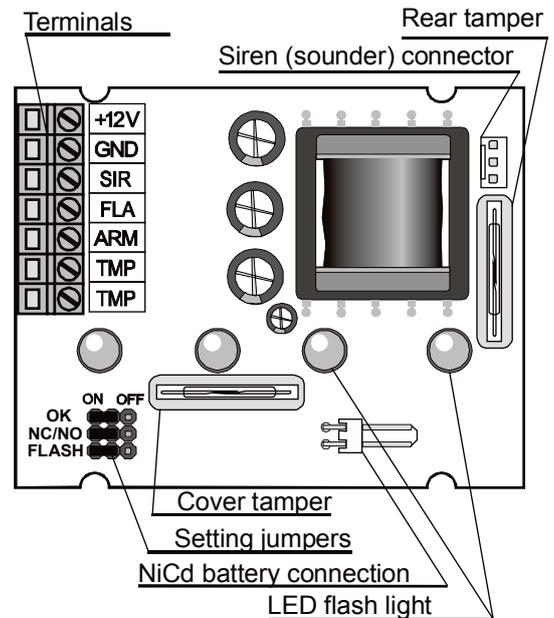

Fig. 1 : Electronic circuit board front scheme
**Important:** An activation of the siren with a disconnected sounder (see Fig. 1) does not cause any damage to the electronic circuits. Instead, a **high voltage is produced** on the sounder connector.